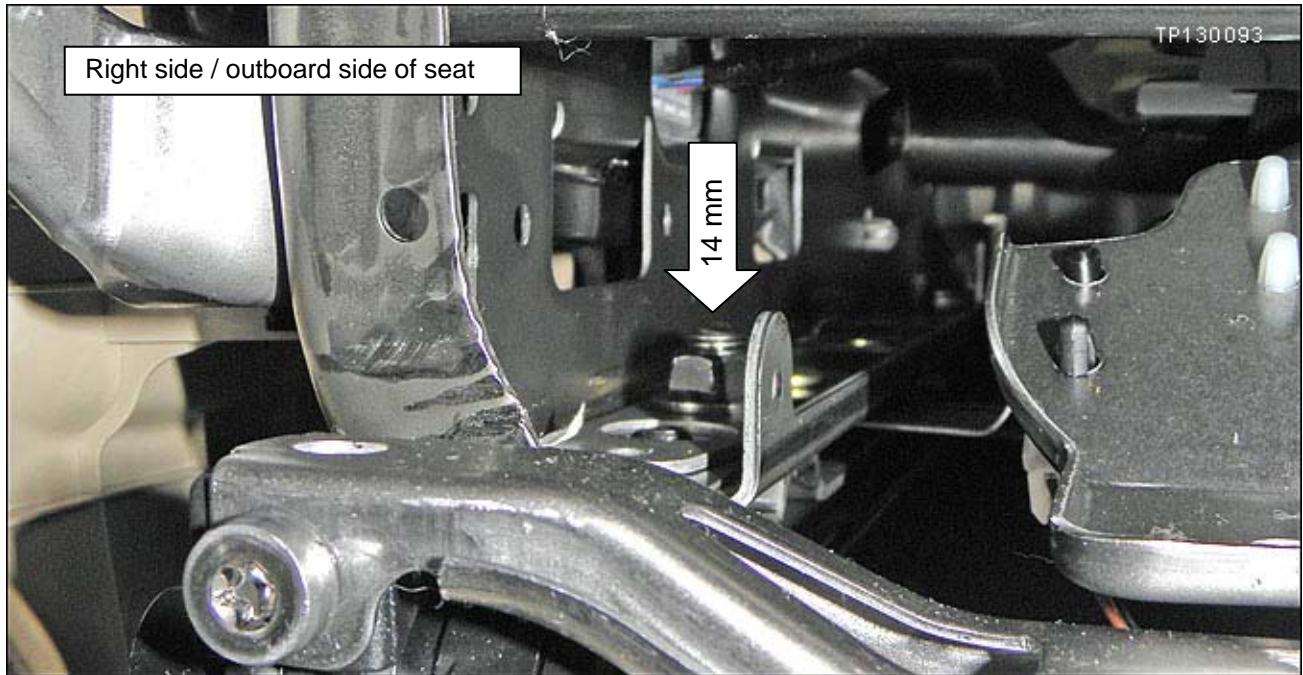

Figure 12
- c. Locate and remove the 14 mm nut shown in Figure 12.